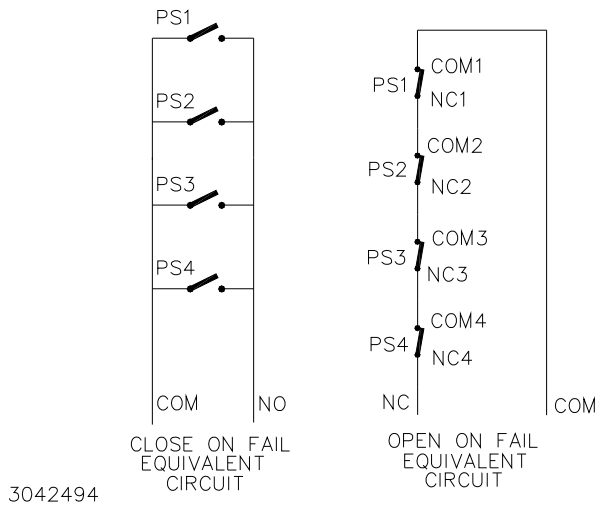
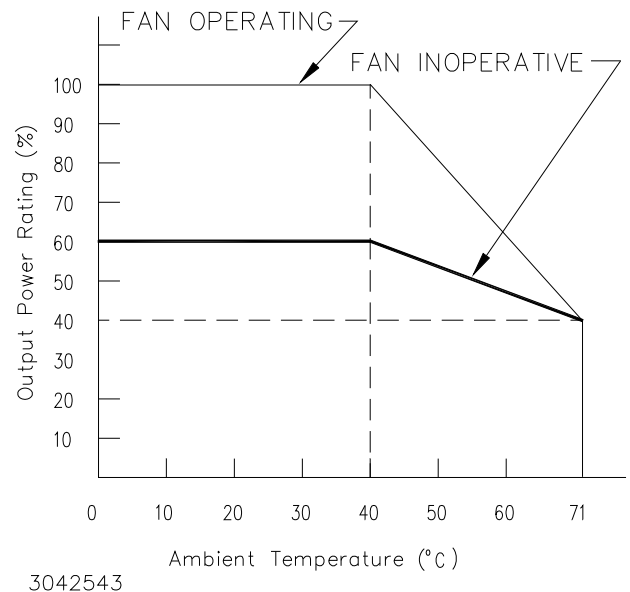

FIGURE 4. TYPICAL ALARM CIRCUIT DIAGRAMS
FIGURE 5. % OUTPUT POWER RATING VS. AMBIENT TEMPERATURE
(1) Overtemperature or overvoltage shuts down the output. Recover by recycling a-c input (30 second delay required before resetting).
(2) 25°C, Nominal. Input.
(3) Hiccup mode operation. After the cause of overcurrent is removed, output voltage recovers automatically.
(4) See power rating curve, Figure 4. Exceeding maximum power rating may result in oscillation or a drop in output current or voltage.
(5) Ripple and noise will be approximately 1.5 times higher in the operating temperature range -10 to 0°C.
(6) Sense resistor included on C and Y Models only (see "Current Monitor" on page 2 for details).
ALARM: The Alarm NC (normally closed) - Open on Failure and Alarm NO (normally open) - Close on Failure lines are relay contacts referenced to Alarm Common. If the unit fails, the path between Alarm NC - Open on Failure and Alarm Common opens, the path between Alarm NO - Close on Fail and Alarm Common is a short circuit. Figure 4 illustrates typical Close on Fail and Open on Fail circuits to give a failure indication if any one of a number of power supplies fail; refer to RA 19-1U manual for complete information regarding other configurations.
Forced shutdown upon fan failure can be disabled by installing a jumper, Kepco P/N 172-0382 (Digikey P/N A26231-N) as shown in Figure 7. This allows the unit to continue to operate with the fan inoperative (see Figure 5 for safe operating conditions); the alarm signals noted above will report an alarm condition, and the VDC ON indicator will either light red (fan supply voltage missing) or flicker between red and green (mechanical failure). If the jumper is installed, the user is responsible for either reducing the load to within the specifications given in Figure 4, or shutting down the unit using the alarm signals provided.
COOLING: All models use forced convection, ball-bearing fans, life expectancy 50,000+ hours. Natural convection can be used if the load does not exceed 60% of max. (see Figure 4). Simply disconnect the fan and install jumper J1 (see Figure 5); the alarm signals described above are disabled and VDC ON lights red; overvoltage and open sense line conditions still force unit shutdown. Contact Kepco's Application Engineering for full-featured natural convection-cooled units.
OPERATING TEMPERATURE: See Figure 5.